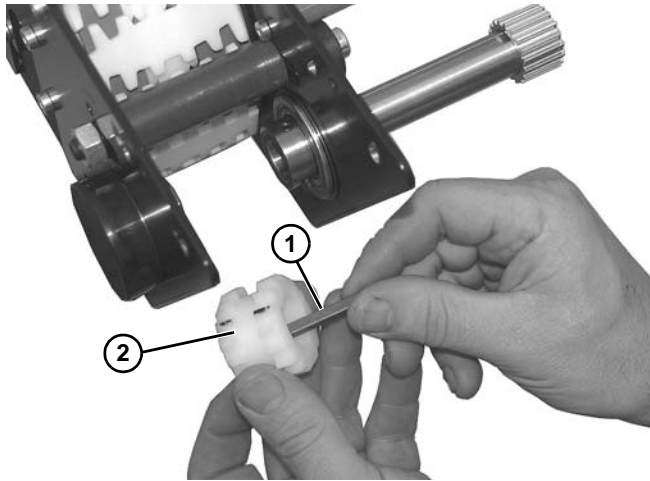

Figure 169
17. Remove key (Figure 169, item 1) from sprocket (Figure 169, item 2).